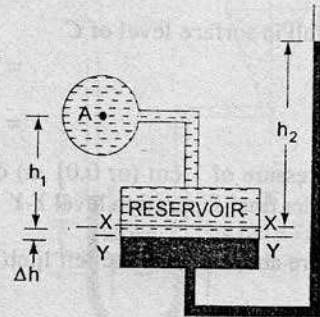

Fig. 2.15 Vertical single column manometer.
2.6.3 Single Column Manometer. Single column manometer is a modified form of a U-tube manometer in which a reservoir, having a large cross-sectional area (about 100 times) as compared to the area of the tube is connected to one of the limbs (say left limb) of the manometer as shown in Fig. 2.15. Due to large cross-sectional area of the reservoir, for any variation in pressure, the change in the liquid level in the reservoir will be very small which may be neglected and hence the pressure is given by the height of liquid in the other limb. The other limb may be vertical or inclined. Thus there are two types of single column manometer as :
Fig. 2.15 shows the vertical single column manometer. Let X-X be the datum line in the reservoir and in the right limb of the manometer, when it is not connected to the pipe. When the manometer is
Now consider the datum line Y-Y as shown in Fig. 2.15. Then pressure in the right limb above Y-Y,